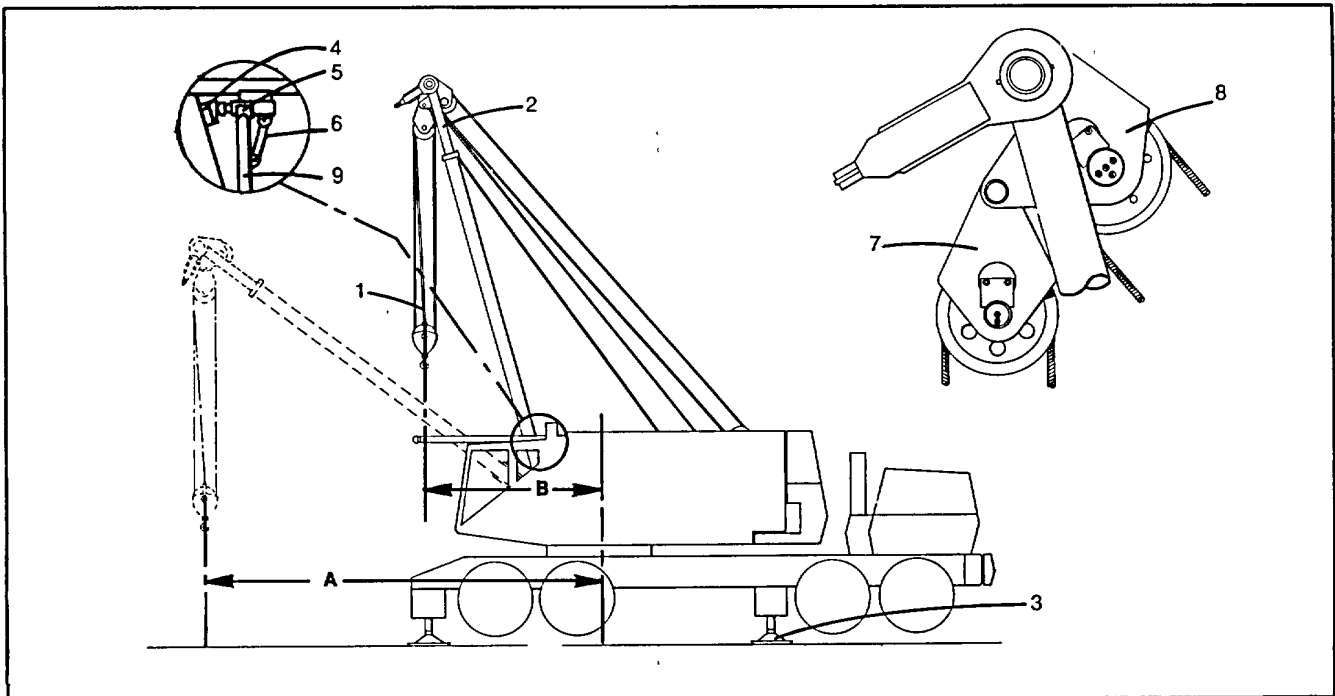
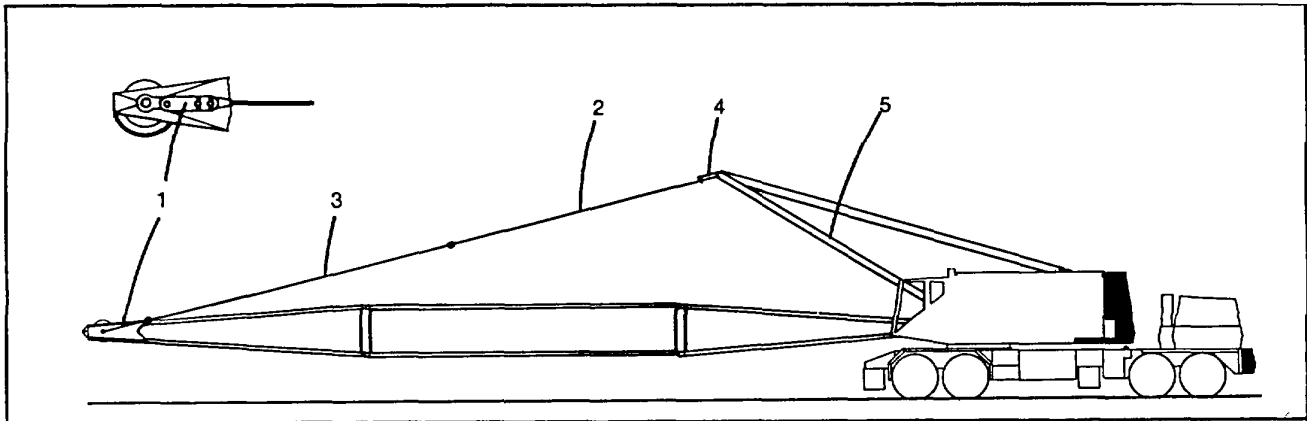

Fig. 5-4 Live Mast Used As A Short Boom
Fig. 5-7 Main Pendants and Links (70 Ft. - 21.3m Boom Shown)
- (d) The boom backstops (Fig. 5-4 & 5-6) must be in their supports. The anchor links (6 in Fig. 5-4) must be connected between the backstop standoffs and the boom backstops.
5-11 Boom Assembly Step 1: Reeve live mast as a short boom (See Fig. 5-4). Use the short boom to install the boom lower section on the machine.
Reposition the live mast backstop target (Fig. 5-3) to the vertical position. Unpin the backstop tie down links (Fig. 5-4). Install the backstop struts (Fig. 5-7) between the boom lower section and the backstop tubes.